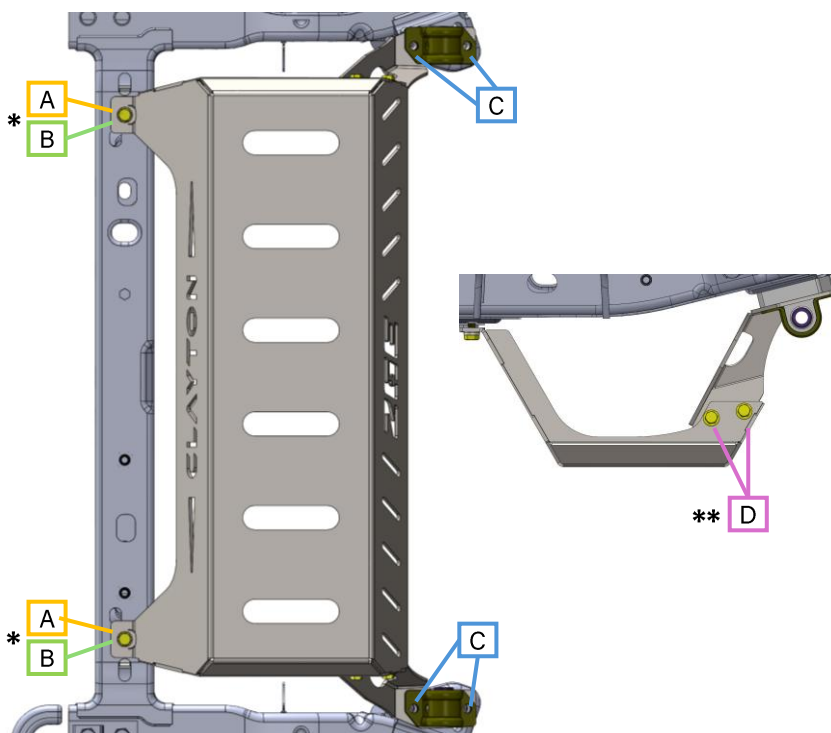

Figure 9: Bolt callouts on muffler skid plate hardware
7. At this point, all the hardware has been started but **loosely** threaded. Using Table 1 and Figure 9 below, go around and tighten all of the bolts to the recommended torque specification.
*** NOTE:** For bolts D, only one bracket is shown in Figure 9. The remaining two bolts are located on the other support bracket.